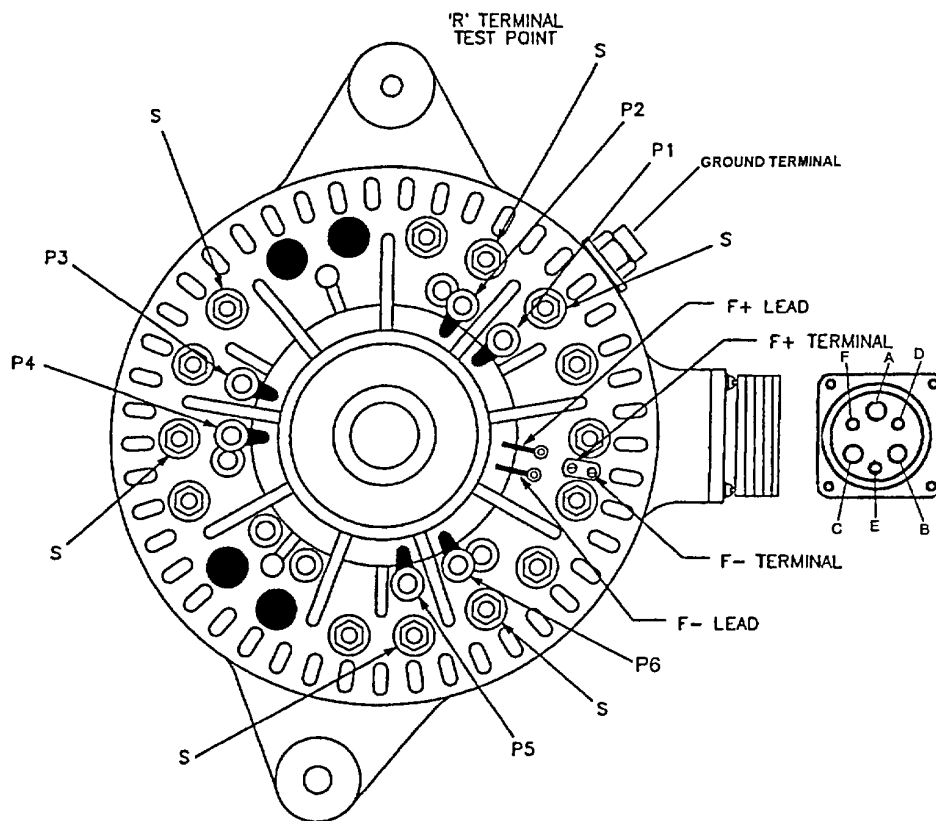

Figure 2-16. Stator Winding Points
(6) Stator Tests - Remove all phase leads (P1-P6) from front housing (fig 2-16).
(a) Open stator winding - Set ohmmeter for X10 scale and make sure ohmmeter is zeroed. Connect multimeter leads to each successive pair of phase stator windings (fig. 2-16). Ohms should read less than 1 ohm between each pair of stator phase windings. If ohms reads very high, the stator is open and must be replaced. Replace or repair stator and shell assembly, in accordance with paragraph 3-4b, steps 1 thru 12.
(b) Shorted stator winding - Set ohmmeter for X1 scale and make sure ohmmeter is zeroed. Connect multimeter leads to each phase lead and ground terminal located on outside of front housing (fig. 2-16). Ohms should read very high. If ohms read zero, the stator is grounded and must be replaced. Replace or repair stator and shell assembly, in accordance with paragraph 3-4b, steps 1 thru 12.